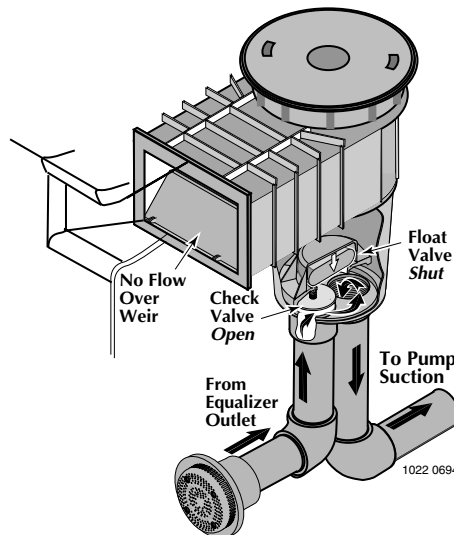

Figure 2: Equalizer operation; float valve shut, check valve open.
B. Skimmers **with** float: If skimmer is equipped with float valve, adjust trimmer plate on bottom of float. To reach trimmer plate, remove cover, basket, and float valve (See Figure 2, below). Swing trimmer plate to one side to increase trimmer port size (more flow through skimmer, less flow through main drain); reduce port size for less flow through skimmer and more flow through main drain.